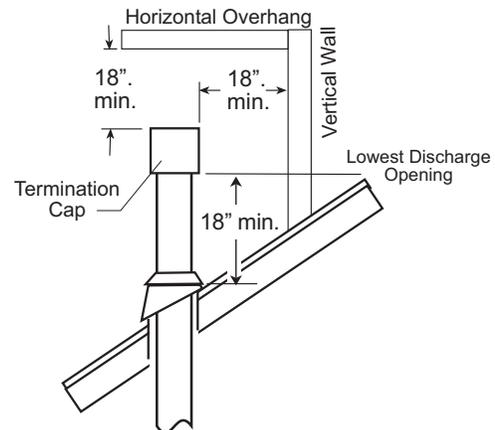

Figure 7. Minimum vertical termination height and roof clearance.
- In no case shall any discharge opening on the termination cap be less than 18" (457 mm) horizontally from the roof surface. See fig. 7.